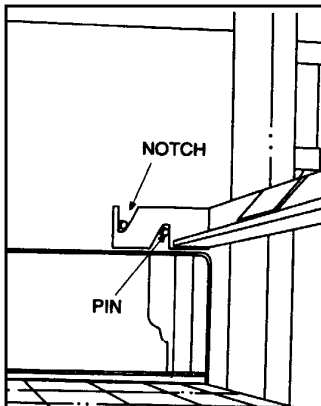

Figure 2
8. Rotate the finger brackets until the notches in the brackets sit on the retaining pins. (See Figure 2.)